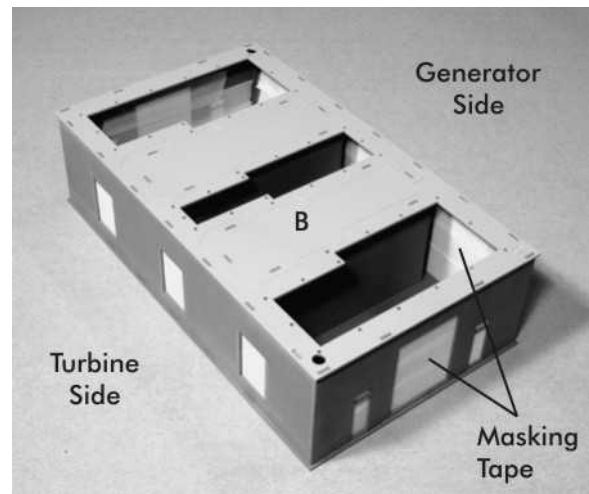

Figure 4
Prime part (B) gray and paint khaki on both sides. Once dry, insert the top tabs of the assembly into the slots of part (B) with the engraved part number facing up. Check that all the tabs are seated properly and glue in place. See Figure 4.